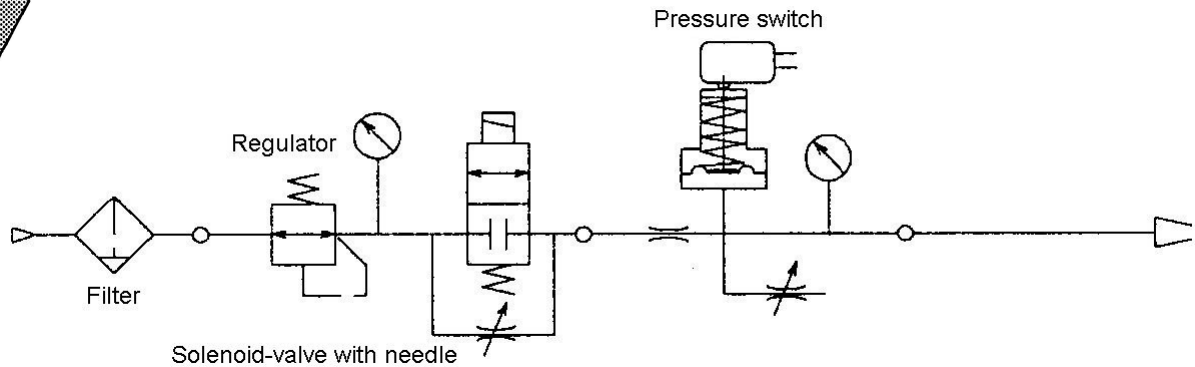
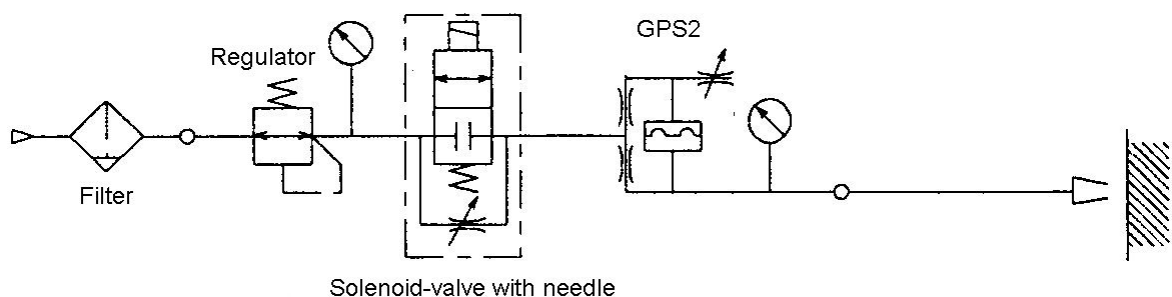

Figure 5 Pressure switch and Solenoid-valve with needle
Figure 6 Gap switch and Solenoid-valve with needle
- 10) The gap switch includes a pneumatic bridge circuit. Note the difference in the signal retrieval timing between a conventional pressure switch circuit (Fig. 5) and the circuit we recommend for the gap switch.
- With the circuit given in Fig. 5, the closing of the solenoid valve turns OFF the pressure switch, regardless of the presence of a workpiece.
- With the circuit given in Fig. 6, the presence of a workpiece turns ON the gap switch through the action of the minute flow of air.
- If the circuit for a conventional pressure switch (Fig. 5) includes a control circuit that detects an air sensor abnormality, the OFF checking is performed when the solenoid valve is turned OFF. With the basic circuit for the gap switch (Fig. 6), however, the OFF checking should be performed when a workpiece comes off while the solenoid valve is ON. If the control circuit cannot be modified, the minute flow of air should be completely cut off. This, however, will produce a delay of about one second in the switching from ON to OFF.